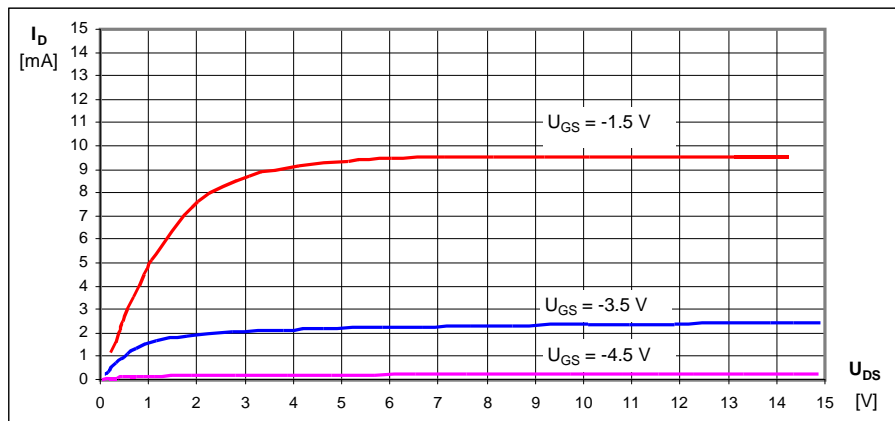

Fig. 6. Family of I_D versus U_{DS} for several values of U_{GS} .
1. Turn to the most left position the voltage knob on the Adjustable Voltage Regulator (ZN).
9. Plot the $I_D(U_{DS})$ dependences. As an example the family of I_D versus U_{DS} curves for several values of U_{GS} is presented on Fig. 6.